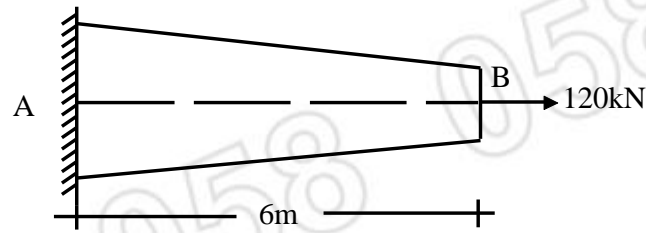

Fig.10
11. Using principle of minimum potential energy find out tip displacement for the tapered bar shown in fig. 10. Cross sectional area of the bar at A is 400mm^2 and at B is 200mm^2 . Take $E = 2 \times 10^5 \text{ N/mm}^2$ 13